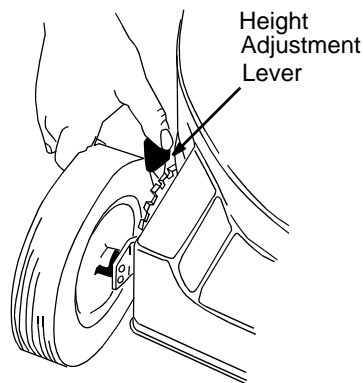

FIGURE 11
- Simply depress the lever towards wheel and move lever assembly to desired position. See Figure 11.
- Remove the screw shown in Figure 11. Remove the cable clamp from the cable.